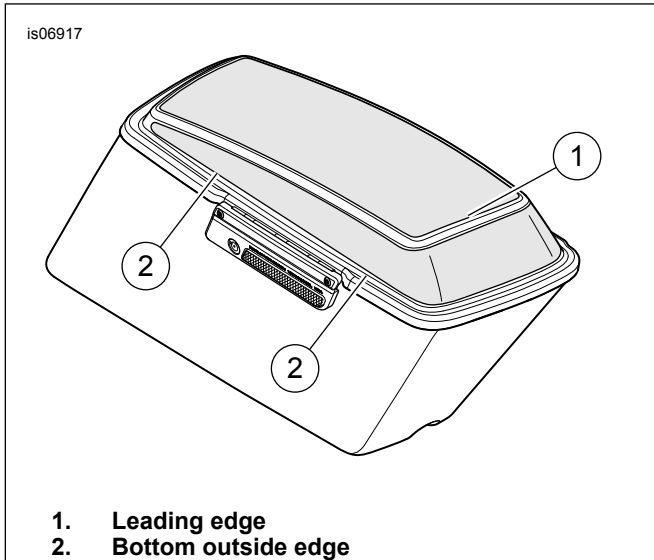

Figure 1. Paint Guard Installation
2. See Figure 1. Align the paint guard with the leading edge (1) of the saddlebag lid. For the side guards, align the bottom outside edge (2) with the saddlebag lid.